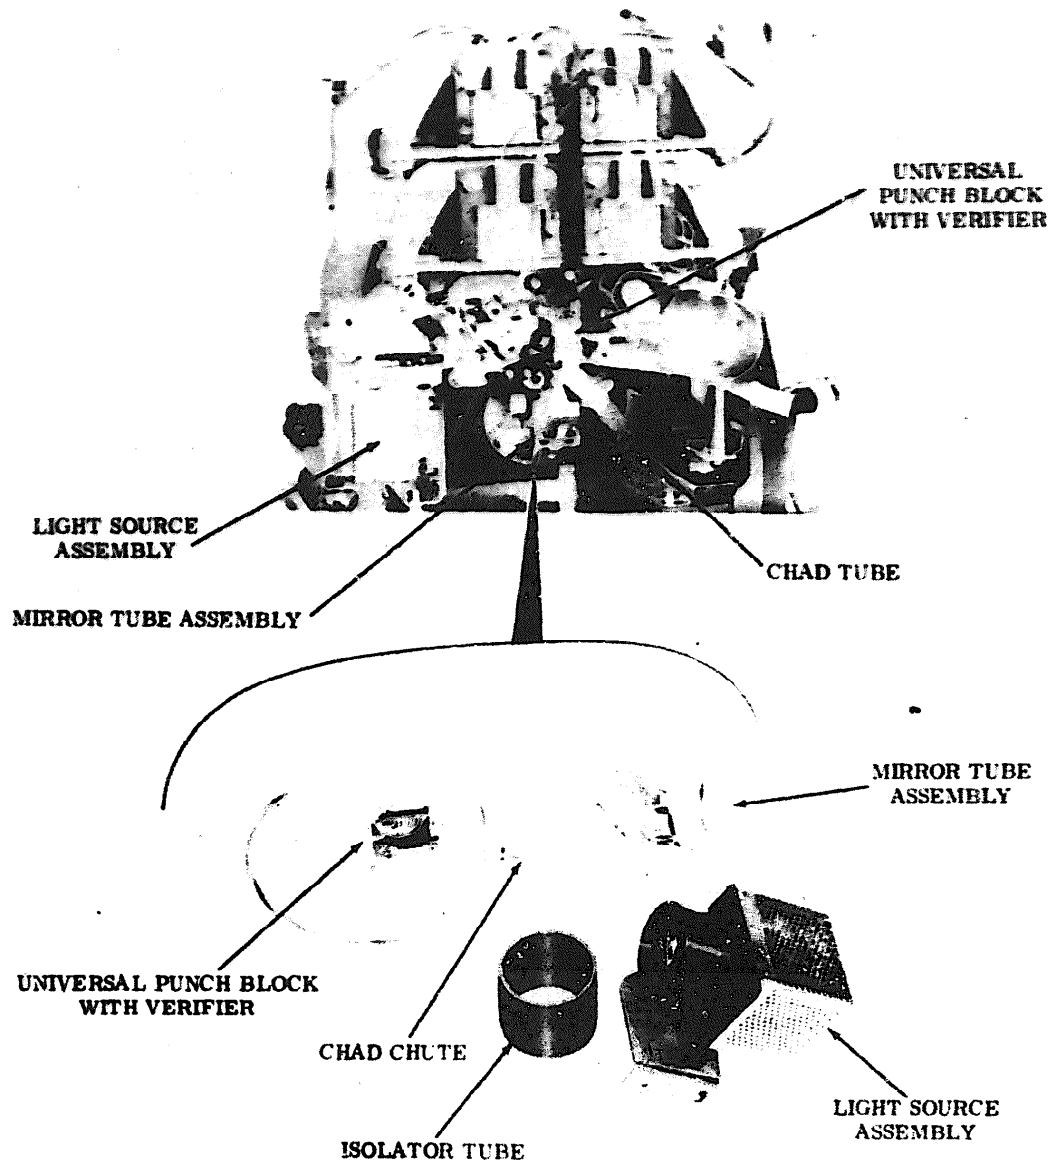

Figure 8 - Eight-Level Punch Unit With Photoelectric Reader, Front View
3.01 To remove the chad chute (Figure 8):
- (1) Remove the chad tube from the chad chute bracket by blocking the bracket in one hand and pulling the chad tube off the bracket with the other hand.
- (2) **Remove the chad tube bracket by removing the two screws (TP151152), lockwashers (TP3640), and flat washers (TP125011) that secure it to the punch block and adapter bracket.**
3.02 To remove the light source assembly (Figure 8):
3.03 To remove the mirror tube assembly (Figure 8):
3.04 To remove the Punch block assembly with verifier (Figure 8):